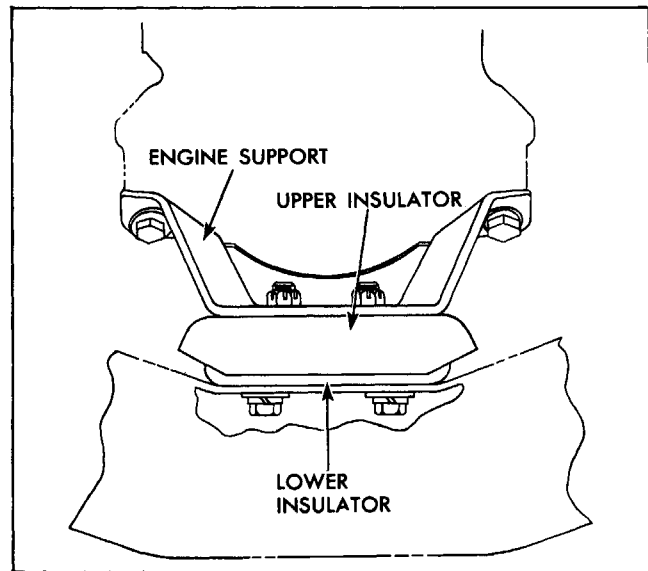

Fig. 6-21 Engine Front Insulator Mounting
2. Remove screws fastening engine support to timing chain cover (Fig. 6-21).
12. Remove screws and lockwashers which fasten front engine support to timing chain cover (Fig. 6-21).